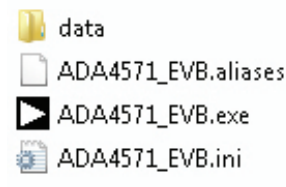

Figure 4. Place Downloaded Files on the PC
1. Place the downloaded executable file and supporting files in a convenient location for use (see Figure 4). It is recommended to place these files on the root C drive of the PC. Note that do not separate the executable file from the other files that are downloaded or the executable file cannot run.